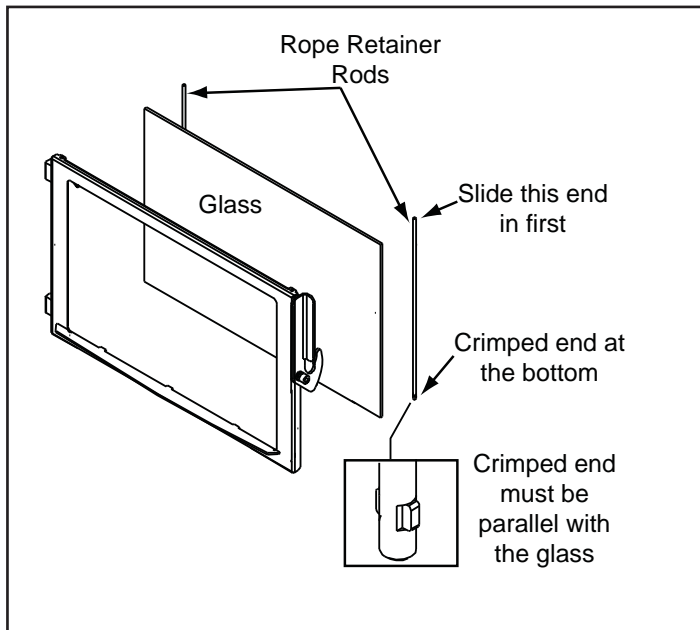

Figure 19.1
4. Slide the retainer rod into the top hole first, and then line up the bottom crimped end with the hole in the door. The crimped end must be parallel with the glass in order to insert it into place. **Figure 19.1.**